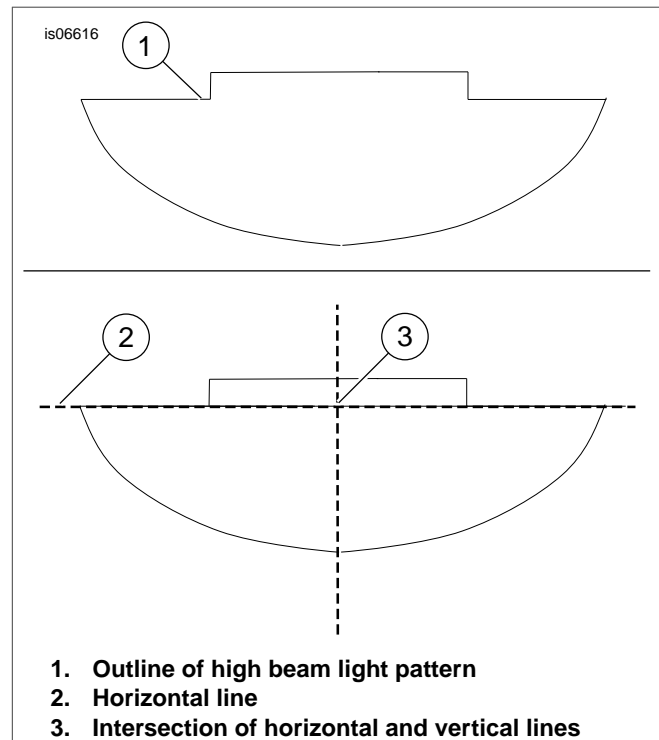

Figure 3. Alignment of Headlamp High Beam
2. See Figure 3. With vehicle laden and upright, point the front wheel straight forward at wall.
3. Turn on the **high beam** and align the center of the **high beam** hot spot with the intersection of the horizontal and vertical lines (3).